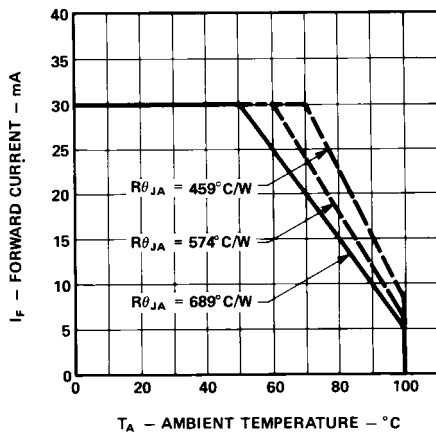

Figure 5. Maximum Forward DC Current vs. Ambient Temperature. Derating Based on $T_J \text{ MAX} = 110^\circ\text{C}$.
3. Derate linearly as shown in Figure 5.